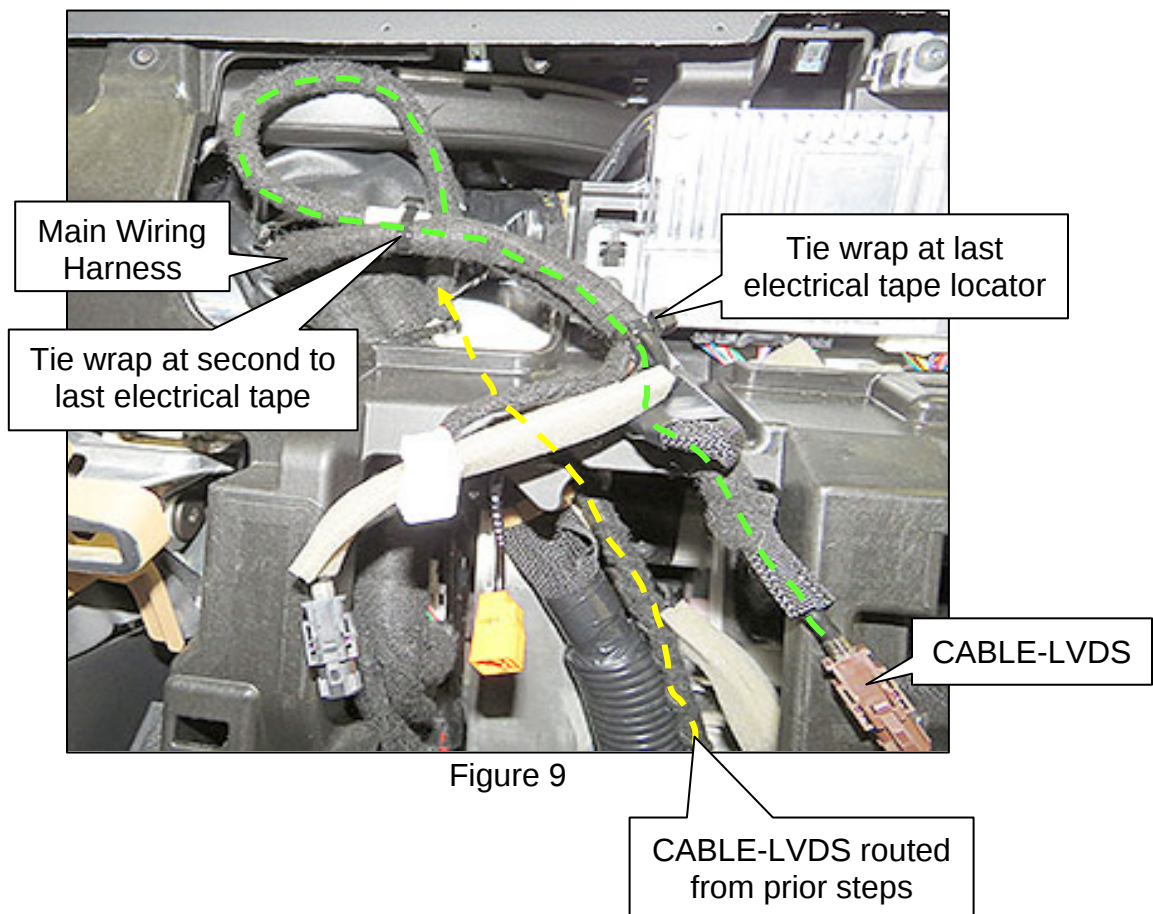

Figure 9
- g. Position the last electrical tape locator on the CABLE-LVDS close to where the wiring harness branches to individual Display Unit Main Wiring Harness connectors (Figure 9), then place the tie wrap in the center of the electrical tape and then tighten the tie wrap.
- h. Loop the CABLE-LVDS and position it along the Main Wiring Harness, as shown in Figure 9.
- j. Cut off the excess tie wrap ends from all eight (8) tie wraps.